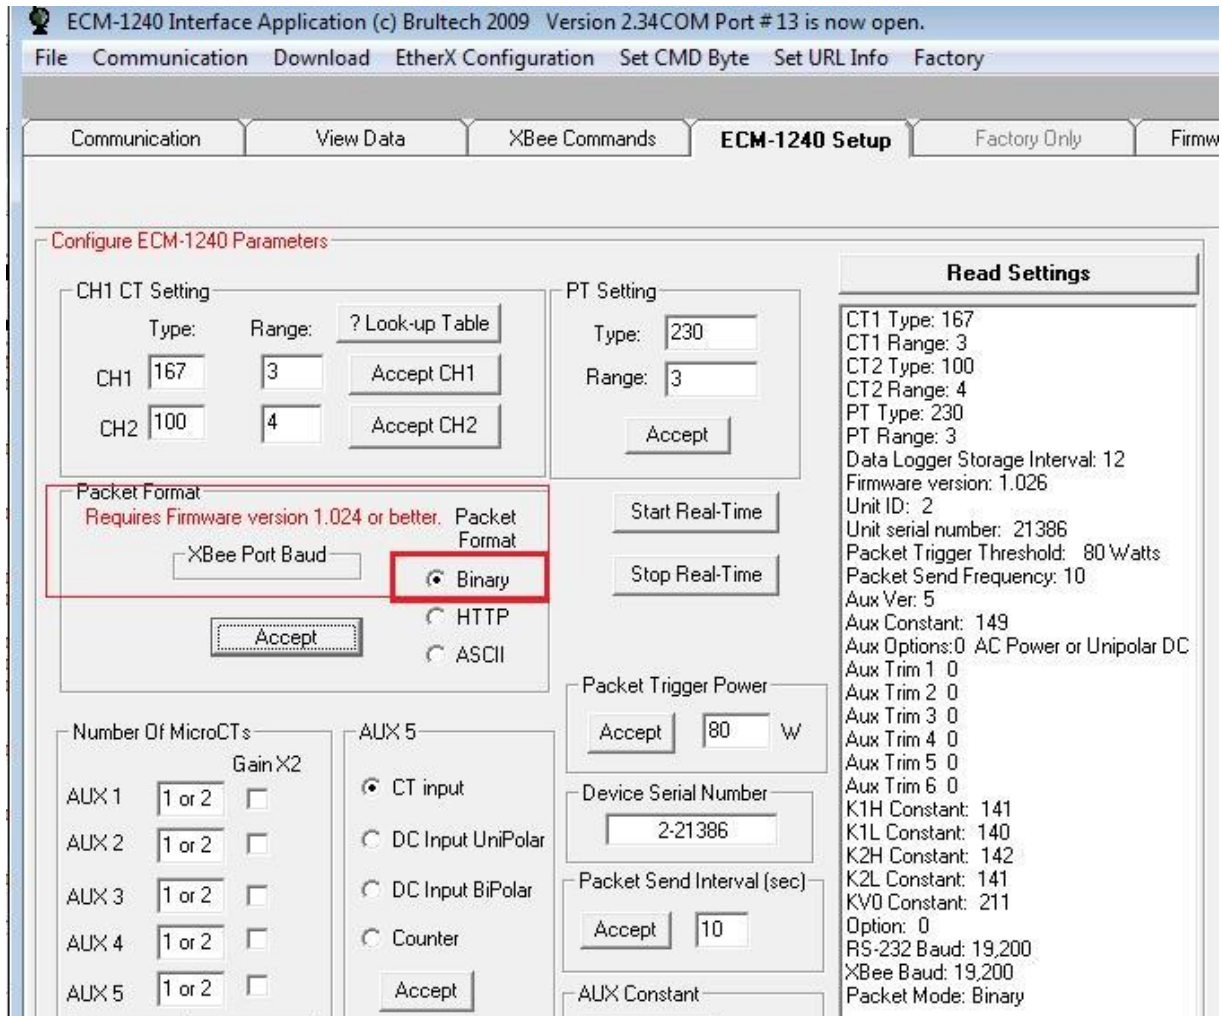

Figure 2C – ECM Configuration Utility
1. Open ECM Configuration Utility (Figure 2C)